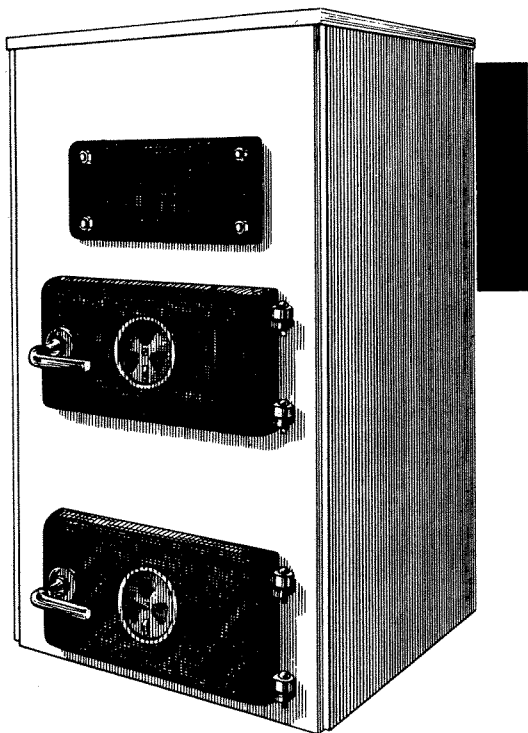

Fig. 88. Multitherm boiler.
27. **S/A Energy Division** (distributor), 730 Midtown Plaza, Syracuse, NY 13210. The Multitherm (Fig. 88) is a multifuel furnace that converts from wood to coal, oil, or gas. The S/A Anthrathern is also available for automatic coal operation. The Multitherm boiler is of cast-iron and steel construction with cast-iron grates. Automatic temperature controls can be regulated for hot-water or low-pressure steam systems. Built to ASME standards with optional domestic hot-water coil.